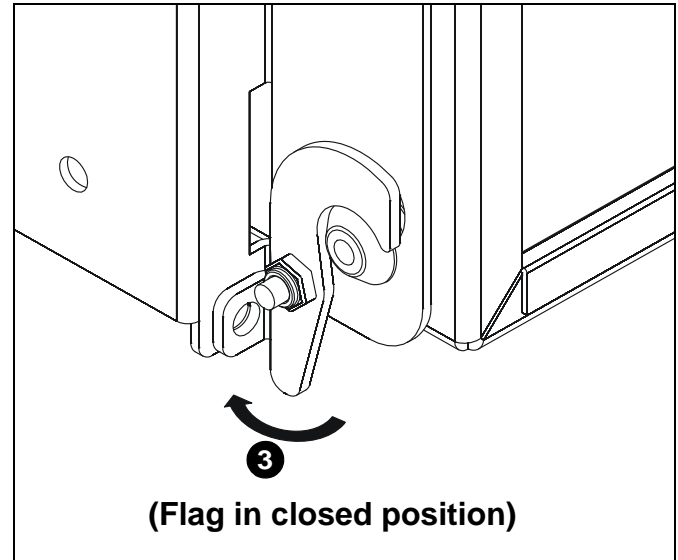

Figure 15
3. Move flag to closed position in order to fully secure mount to bracket. (See Figure 15)
7. Move flag to closed position in order to fully secure mount to bracket. (See Figure 15)